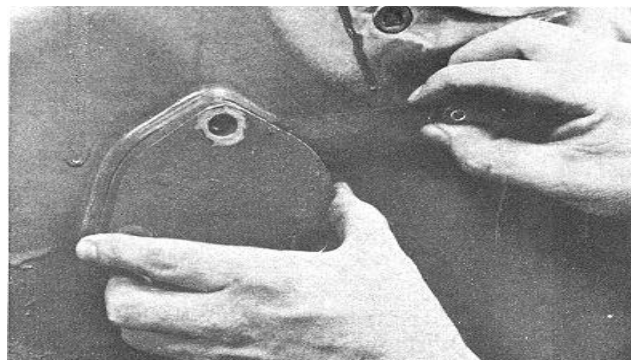

Fig. 14-43 (N114268). Measure The Clearance For The Bearing Support.
- c. Use a feeler gauge to measure the space between the mounting flange of the support bearing or thrust plate and gear cover, Fig. 14-43. Use this measurement to find the thickness of the spacers needed to provide the correct clearance.